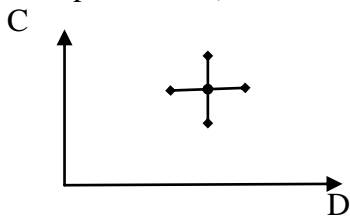

Fig.1 Presentation of an experimental result and associated uncertainty bars in a graph.
3. For each of the circular objects, measure the circumference "**C**" and record it as C_{best} [div] together with its **absolute uncertainty** " **$\Delta C = 0.5div$** " in data table. For this measurement, fit a piece of string around the object circumference, cut it and measure its length by using the *scaled paper tape*. Plot a **graph** $C = C(D)$ of the **circumference** versus **diameter** and label it as graph No.1. Put on horizontal axe the *D-values* , on vertical axe the *C-values* and select the same length for unit div on both axes. For each circle, use the D_{best} , C_{best} in table to get a point on the graph area. Use the length "**0.5div**" to draw the "*uncertainty bars*" (known as "*error bars*" see fig.1)). Use the method shown in "Brief survey on uncertainties" to **determine the slope** of this graph. Find what is the **significance** of the *slope* value. Write the result by presenting the absolute and relative uncertainty for slope values. (i.e. $Sl = Sl_{best} \pm \Delta Sl$; $\epsilon_{Sl}\% = (\Delta Sl / Sl_{best}) * 100\%$)